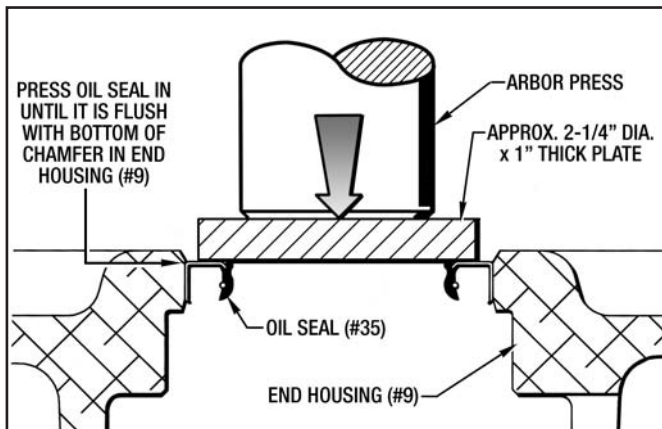

Figure 9.3 - Installing Oil Seal (#35) into the End Housing (#9)
3. With an Arbor Press and a 2-1/4" Dia. x 1" Thick Plate, press the Oil Seal (#35) in to the Housing (#9) until it is flush with the bottom corner of the chamfer as shown in *Figure 9.3*.